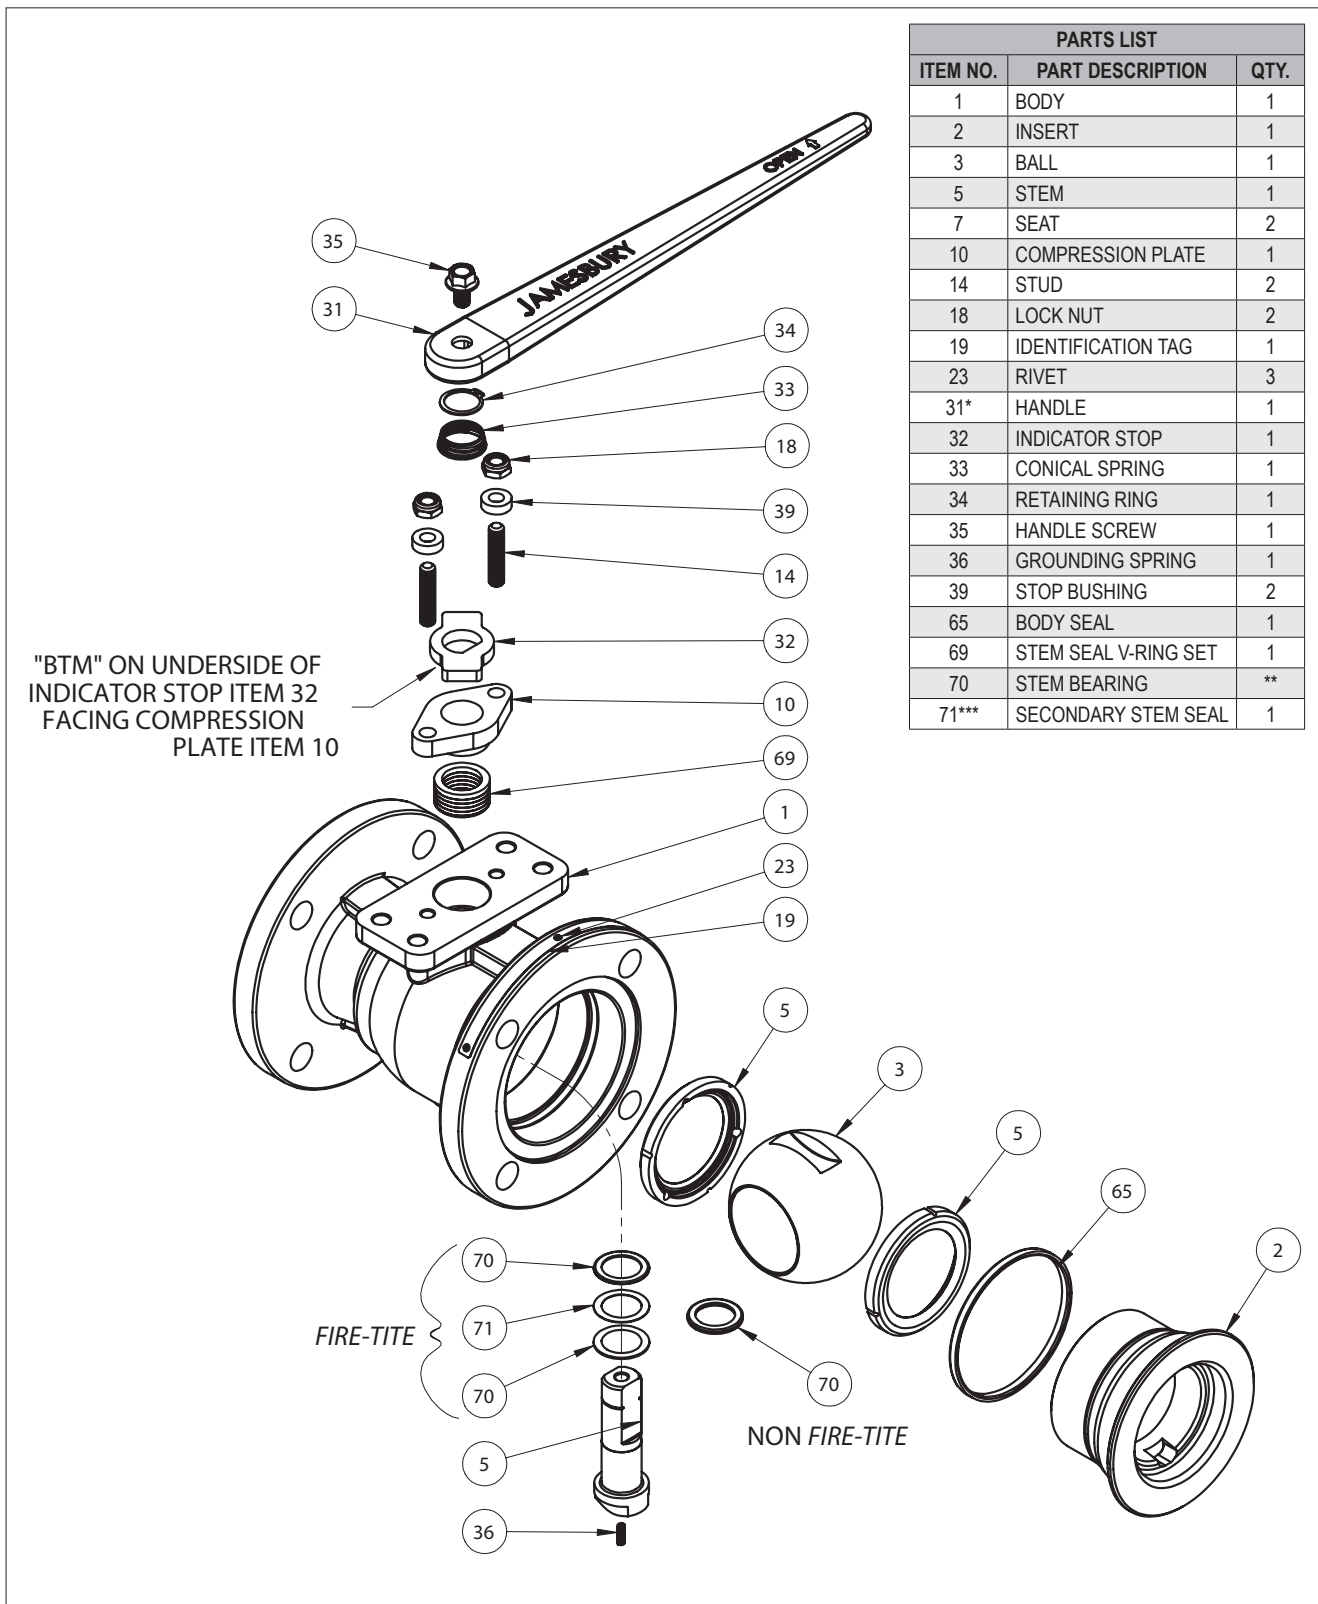

Figure 8.
- c. From **Figure 8**, the ballooned part number, part name and quantity required.